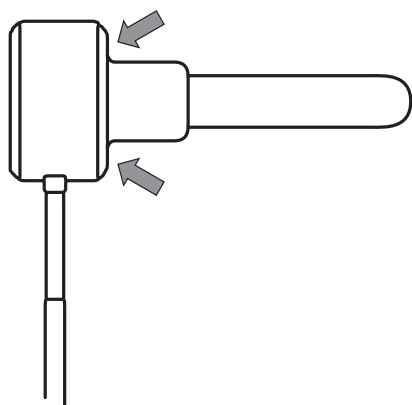

Fig. 905 Sealing surface of exhaust gas temperature sensor
- Sealing surface must be dirt-free (see Fig. 905).